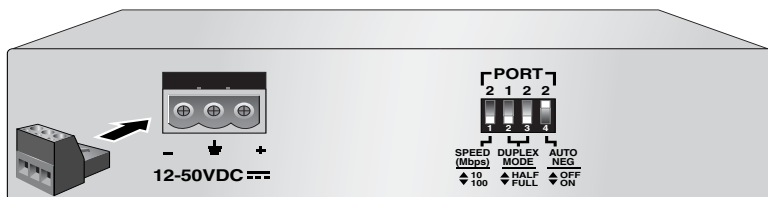

Figure 15 Connecting the Power Connector to the 12-50VDC Version Model
3. Plug the power connector to the 12-50VDC receptacle connector in the rear of the converter, as shown in Figure 15.